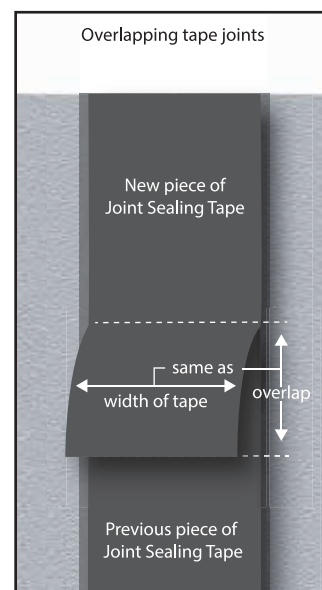

Fig 4.
5. Where the DENSOSTRIP EXTERNAL JOINT SEALING TAPE tape has to be applied in more than one piece to finish the application or where a single tape piece is long enough to overlap back onto itself, always overlap tape joints in a weatherboard fashion by the same distance as the width of the tape. **See Fig 4.**